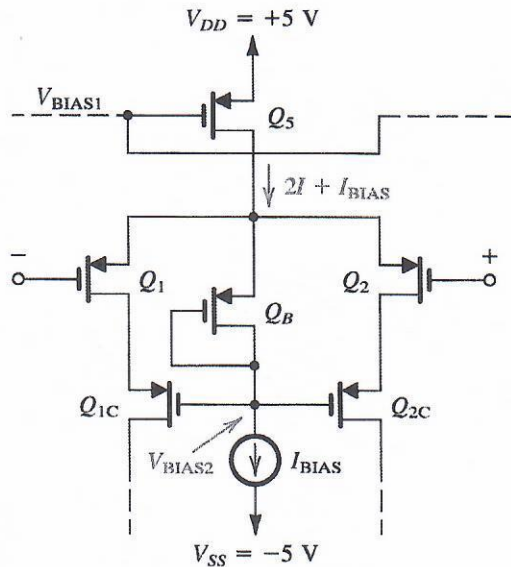

Fig. P10.54
- D**10.54** Consider the cascoded input stage of Fig. 10.25. Let $2I = 25 \mu\text{A}$, $\mu_p C_{OX} = 10 \mu\text{A}/\text{V}^2$, $|V_t| = 1 \text{V}$, and W/L for Q_1 , Q_2 , Q_{1C} , and $Q_{2C} = 120/8$. By how much should V_{BIAS2} be set below the voltage at the common source connection of Q_1 and Q_2 , so that Q_1 , Q_2 , Q_{1C} , and Q_{2C} are operating at the boundary of the saturation region? An arrangement that is usually used to generate V_{BIAS2} via creating a constant voltage difference between the sources of Q_1 and Q_2 and the gates of Q_{1C} and Q_{2C} is shown in Fig. P10.54. If I_{BIAS} is selected to be $5 \mu\text{A}$, find the required W/L